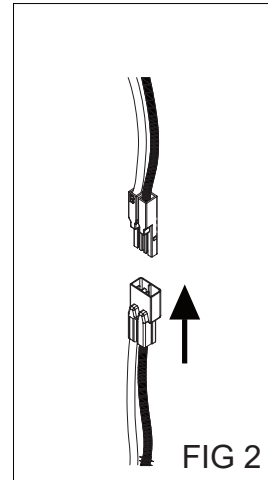

FIG 2
3. Plug female connector of fixture into the male connector of socket adapter. (FIG. 2)